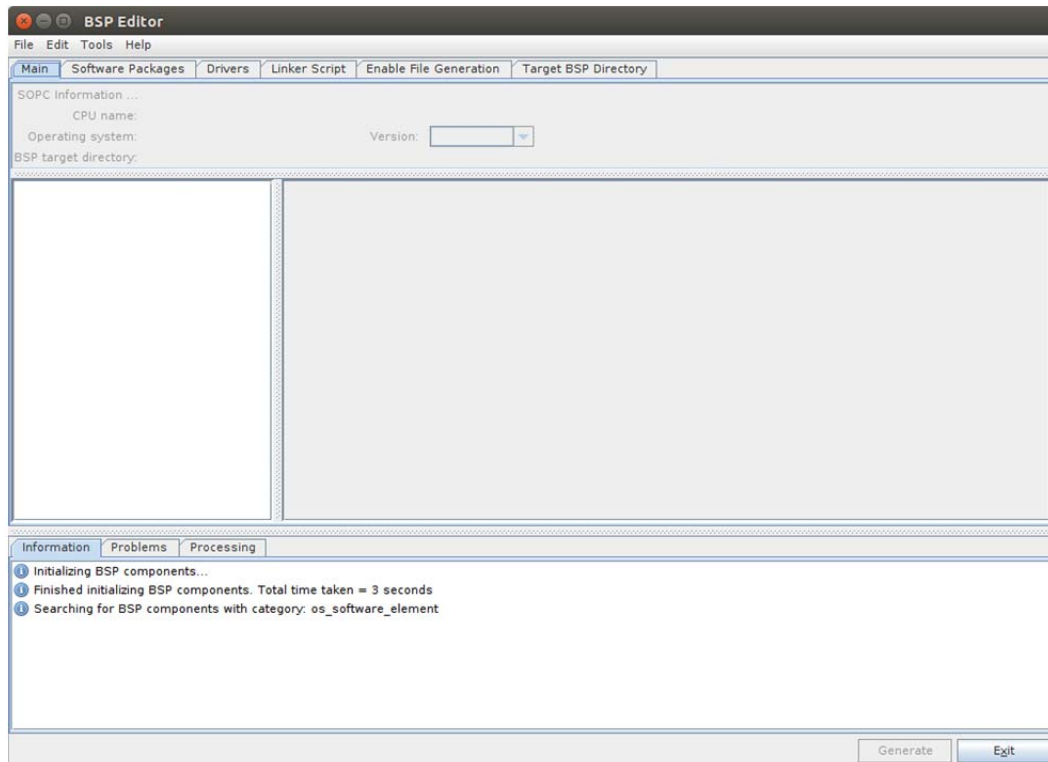

Fig. 39: bsp-editor main window
3. You will see a screen as depicted in Fig. 39. Choose “File > New HPS BSP...” and complete the information requested (see).